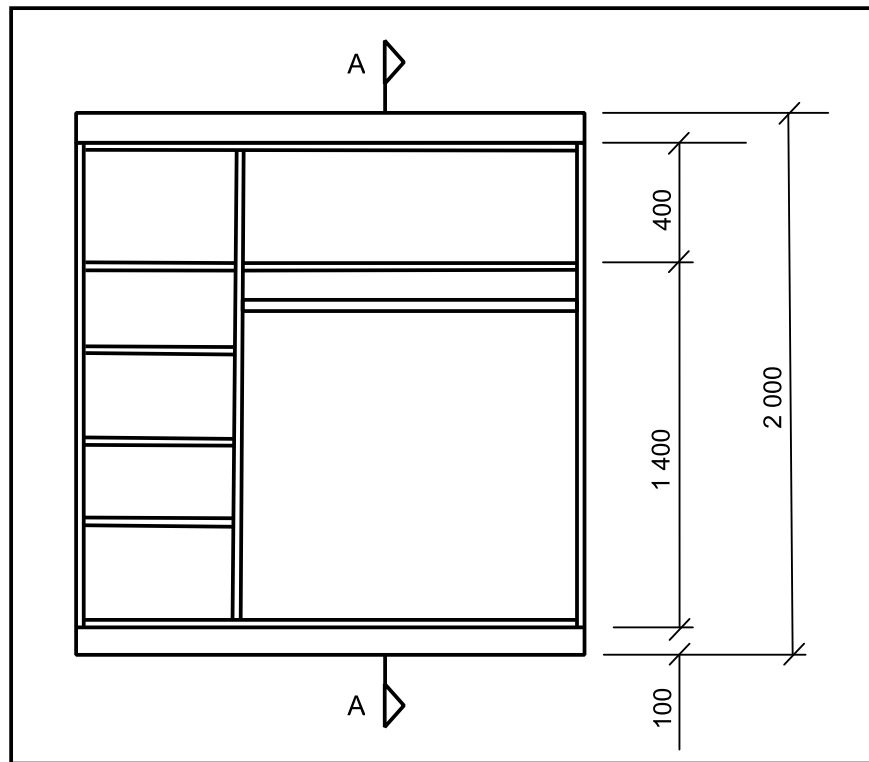

FIGURE 3.4
- 3.4 FIGURE 3.4 below shows the built in-cupboard without the doors.